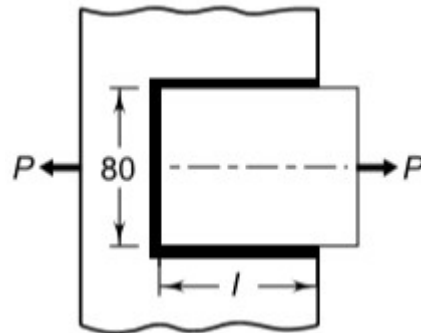

Fig. 2
Q.4(a) A steel plate, 80 mm wide and 10 mm thick, is joined to another steel plate by means of a single transverse and double parallel fillet welds, as shown in Fig. 2. The strength of the welded joint should be equal to the strength of the plates to be joined. The permissible tensile and shear stresses for the weld material and the plates are 100 and 70 N/mm^2 respectively. Find the length of each parallel fillet weld. Assume that the tensile force passes through the centre of gravity of three welds. [5] CO2 L2